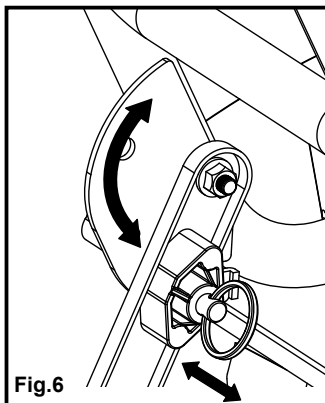

Fig.6
1. Make sure the wheel frame is raised before you start the tiller. To raise the frame, pull out the locking pin (Step A); rotate the wheel frame upward (Step B); release the locking pin. The wheel frame will be locked in place by the locking pin (Fig. 6 & 7).